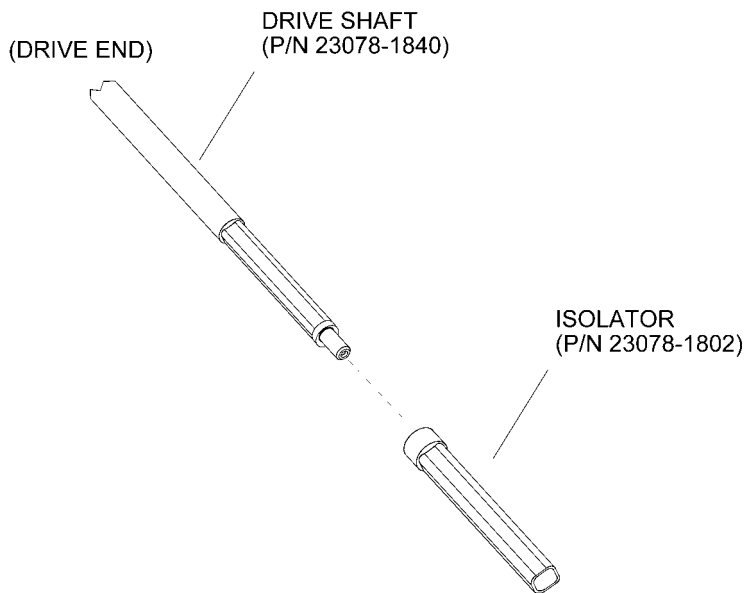
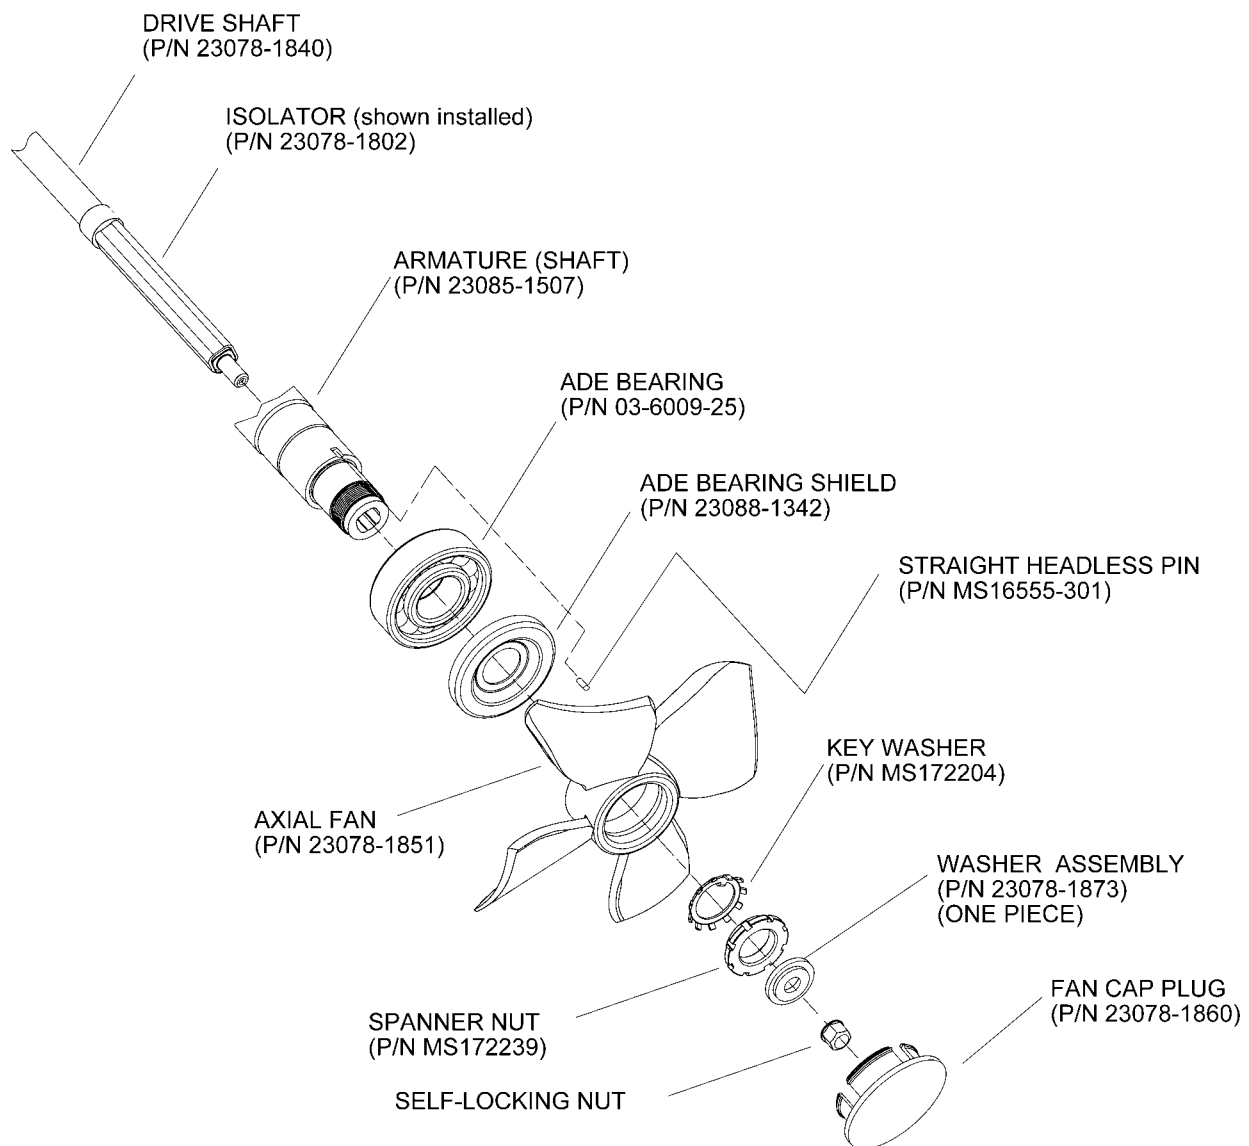

Figure 5 - Installation of Isolator on the Drive Shaft
Figure 6 - Assembly of ADE Drive Shaft Isolation
- (12) Install drive shaft (P/N 23078-1840) with isolator (P/N 23078-1802), ADE bearing shield (P/N 23088-1342) and axial fan (P/N 23078-1851) as follows. See Figure 5 and Figure 6.
- (a) Slide isolator (P/N 23078-1802) onto the drive shaft square spline until the isolator (P/N 23078-1802) is flush against the drive shaft square spline shoulder. See Figure 5.
- (c) Press the fan cap plug (P/N 23078-1860) onto the fan. See Figure 6 for proper orientation.
- (e) Attach key washer (P/N MS172204) on armature shaft as shown in Figure 6, locate key washer (P/N MS172204) on armature shaft by aligning the key washer inner tab with the armature keyway.